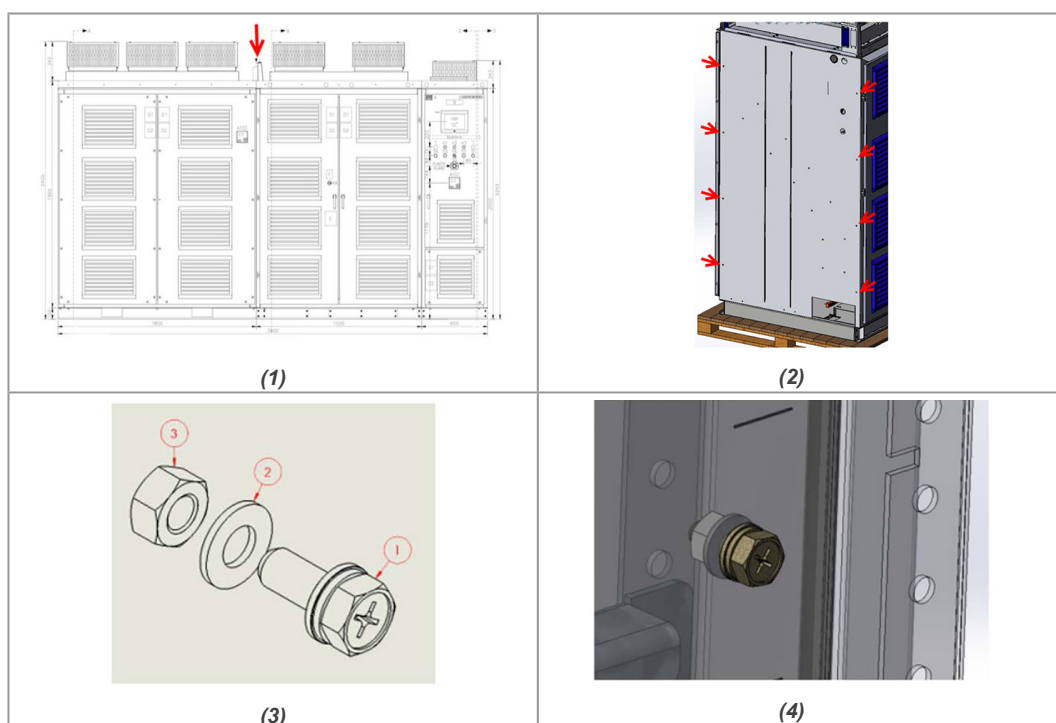

Figure 6.5: Procedure for coupling the MVW3000
1. Position the columns side by side so that they are aligned in depth direction, according to Figure 6.5 on page 6-9 - image 1.
2. Use the bolts, washers, and nuts supplied with the product in the loose items box in the eight available coupling holes shown in Figure 6.5 on page 6-9 - image 2.
3. Install the bolts according to the sequence shown in Figure 6.5 on page 6-9 - image 3 and apply a torque of 19 Nm:
4. Bolt, nut, and washer assembled as illustrated in Figure 6.5 on page 6-9 - image 4.